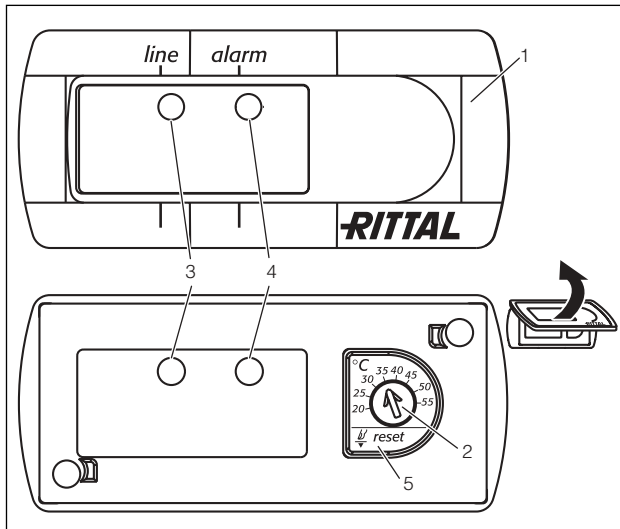

Fig. 17: Basic controller
The Basic controller monitors and controls the air/water heat exchanger. It indicates the operating and error status via the green and red LEDs (Fig. 17, nos. 3 and 4):
- Hold the rubberised potentiometer display (see Fig. 17, item 5, page 18) down while you switch the mains power back on, and keep the button (5) held down for a further 10 seconds.
- Set the required temperature on the temperature setting device (page 18, Fig. 17).